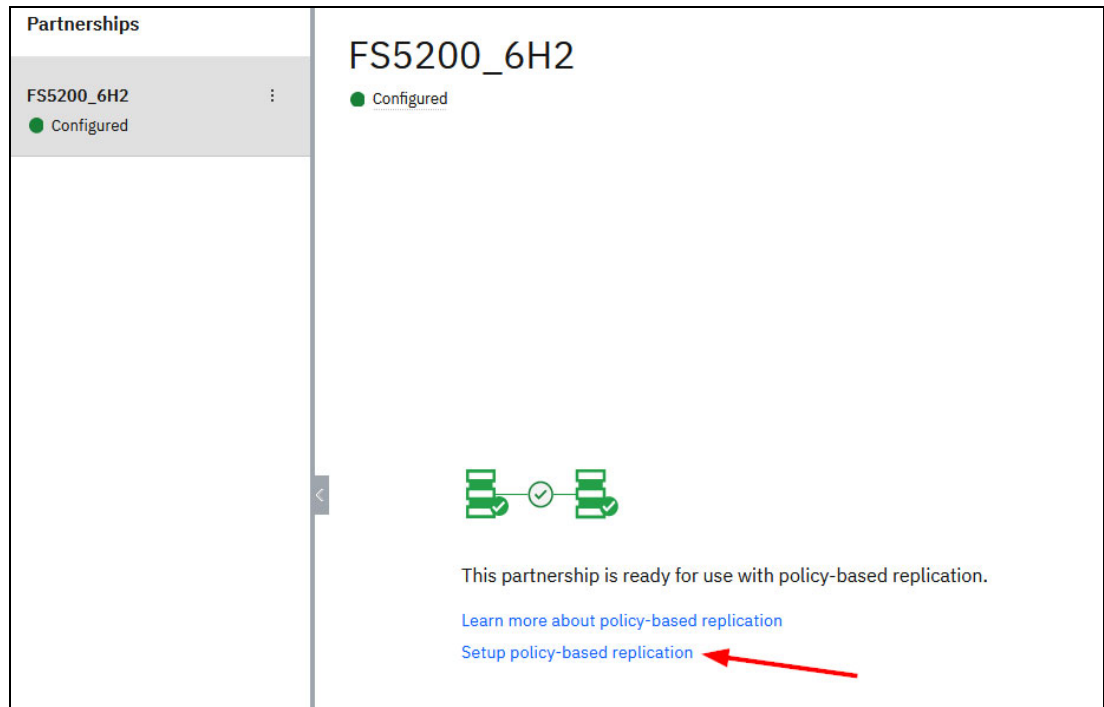

Figure 3-15 Partnership Created
2. Once the partnership shows a green dot and configured select **Setup policy-based replication**. See Figure 3-15 on page 54.